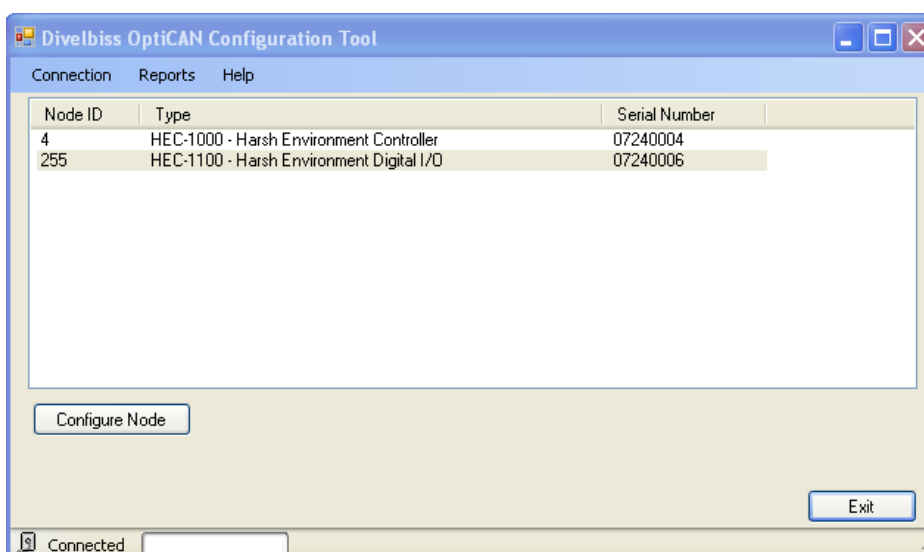

Figure 14-14
**!** When configuring a non-controller device for the first time, the device will display with a Node ID of 255. The 255 designation is reserved for devices that have not been configured. See Figure 14-14. For multiple new devices, they will all be assigned the same 255 Node ID. The controller can differentiate between devices that have not been configured using their serial number. The serial number is programmed at the factory and is not user changeable.